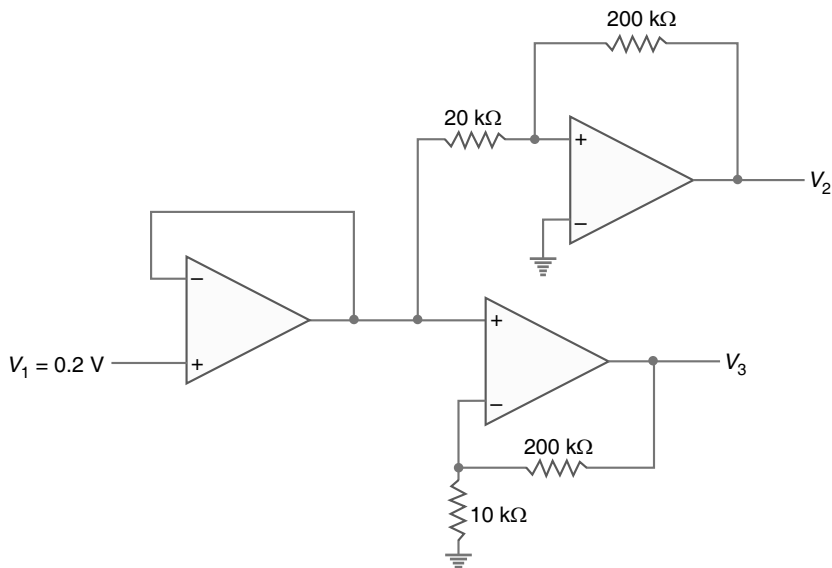

Fig. 23.108
15. Calculate the output voltages  $V_2$  and  $V_3$  in the circuit of Fig. 23.108.